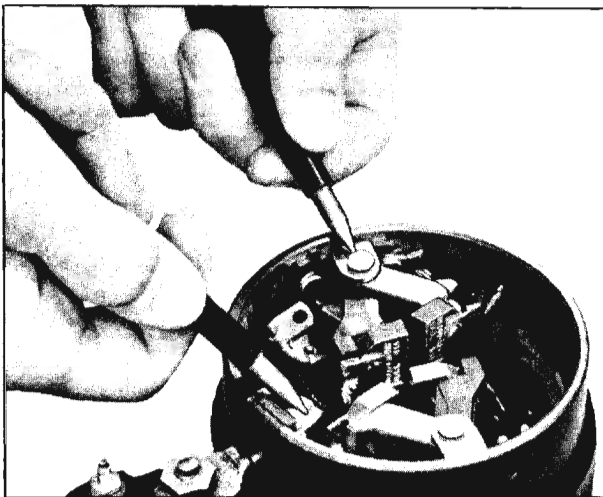

Fig. 14-33 Checking Field Coil for Ground
- e. Using a 110-volt test lamp, place one lead on the connector bar and the other on the field frame. (Fig. 14-33) Disconnect all shunt coil grounds before this check is made. If the lamp lights, the field coils are grounded and the defective coils will require repair or replacement.